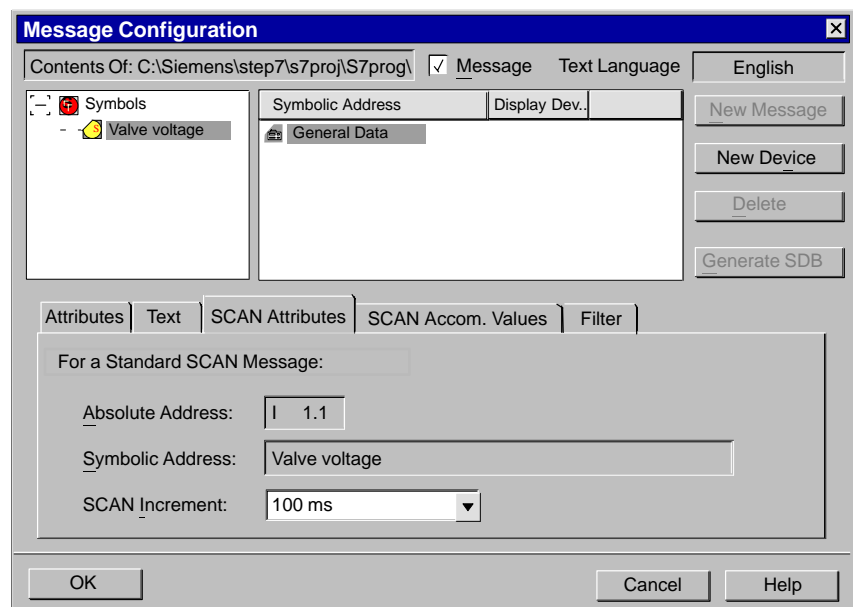

Figure 12-6 “SCAN Attributes” in Message Configuration
2. Choose the signal to which you want to assign a symbol-related message and select the whole row. Permitted signals are inputs (I), outputs (Q), and bit memory (M) of the data type “BOOL”.
4. Fill out the “Attributes” and “Text” tabbed pages. In the “SCAN Attributes” tab, the signal selected in the symbol table via which you gained entry to the message configuration application is displayed as an absolute address and as a symbolic address, as shown in Figure 12-6.